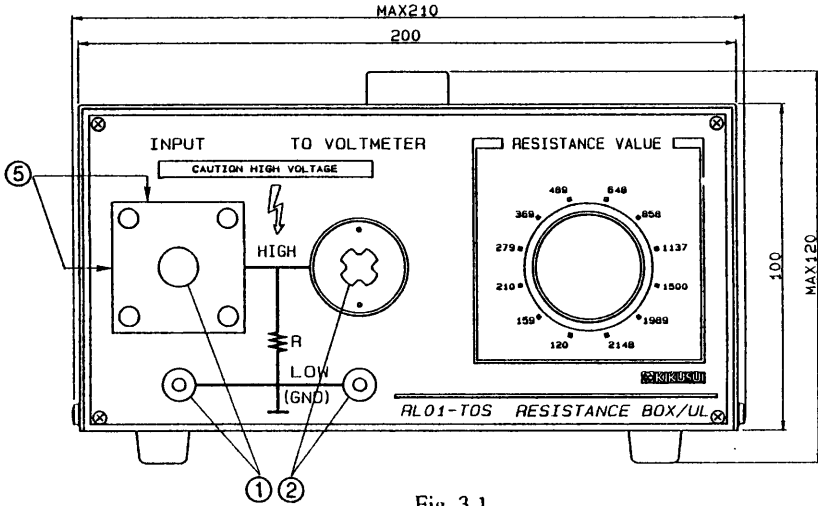

Fig. 3.1
- (1) Connect the INPUT terminals ① shown in Figure 3.1 to the output terminals of the withstanding voltage tester.
- (2) Connect a high voltage voltmeter to the TO VOLTMETER terminals ② shown in Figure 3.1.